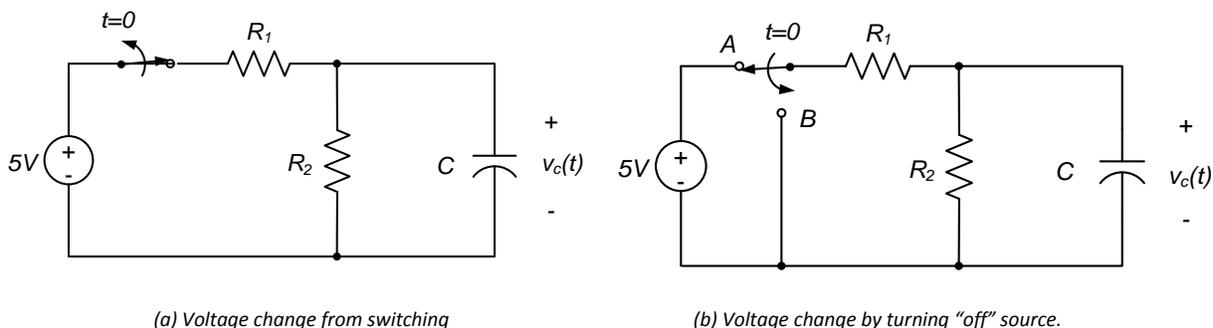

Figure 2. Models of physical approaches to reducing applied voltage.
- a. We will use a voltage source to apply the initial 5V, and physically open a switch to reduce the applied voltage to 0V. This will result in the circuit as shown in Fig. 2(a). Notice that in Fig. 2(a), the voltage source is replaced by an open circuit.
- b. A voltage source will be used to apply the 5V source, as above. However, in order to reduce the applied voltage to 0V, we will simply turn off the voltage source. This approach will result in the circuit shown in Fig. 2(b). Notice that in Fig. 2(b), the voltage source is replaced by a short circuit.
Estimate the initial capacitor voltage, $v_c(t < 0)$, and the time constant for the circuits of Figs. 2(a) and 2(b). Your solutions may be functions of R_1 , R_2 , and C .